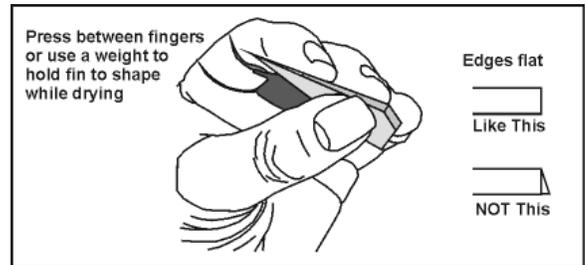

Figure 7
7. Apply a bead of glue on all 4 tabs (gray areas) and form the fin, compressing it between your fingers to hold its shape as the glue sets, as shown in **Figure 7**. **NOTE:** Make sure that the edges of the fin are flat and flush, as shown on the right of Figure 7. Repeat for the remaining two fins.